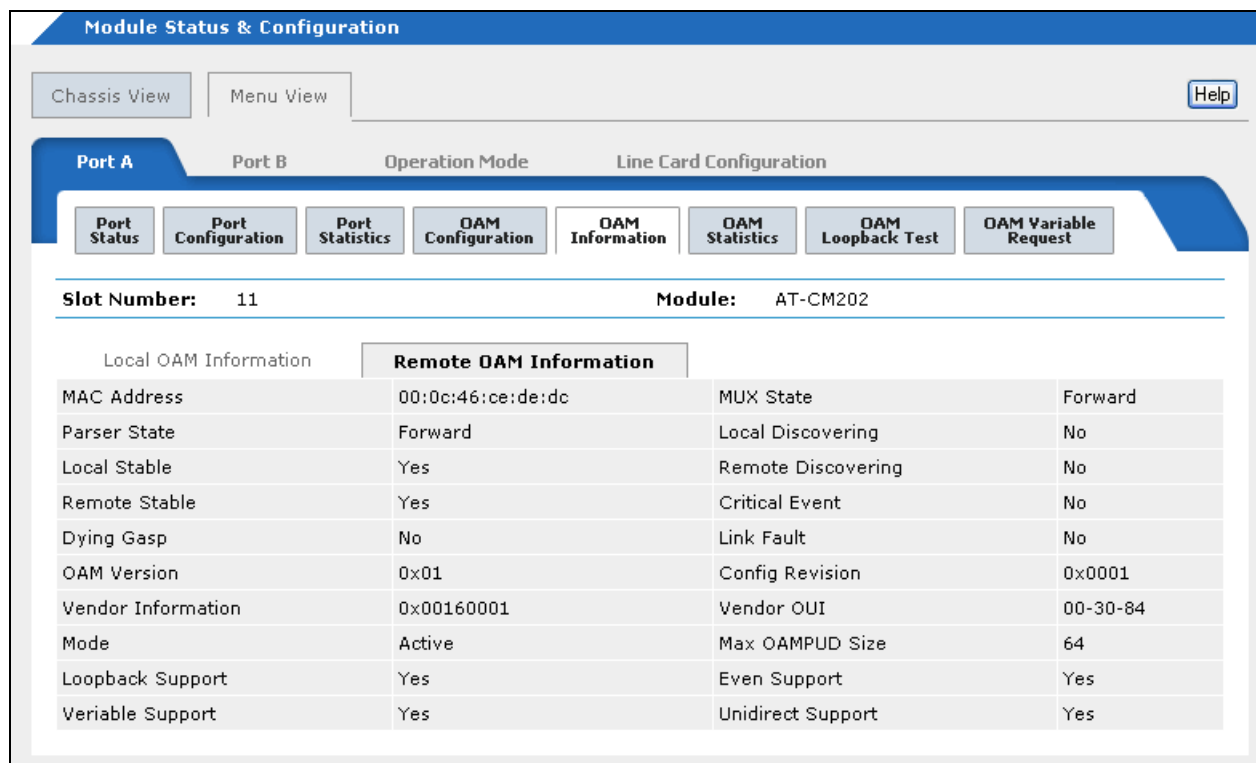

Figure 99. Remote OAM Information Tab
5. Click the **Remote OAM Information** tab to display the tab in Figure 99.